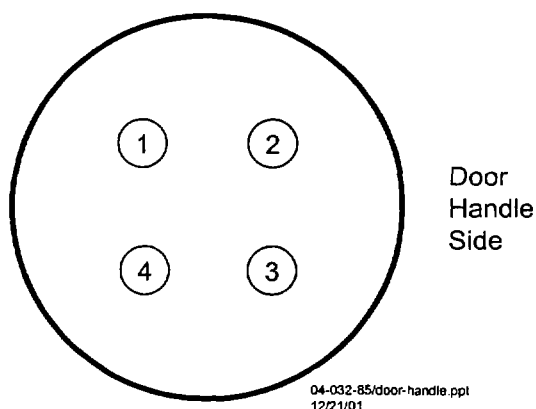

Figure 10-1. High Voltage Flange Exterior View
**Maintain numerical sequence of 50-foot detonator cables with numerical sequence of FIRESET CDU (CH1 through CH4). (See Figure 10-1.)**
- 1.6 The Team Leader will **VERIFY** the connections in sequence of each detonator cable attached to the feedthroughs IAW Figure 10-1.